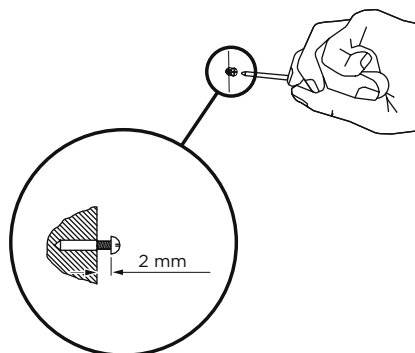

Fig.1
- Attach the upper hood mounting screws in the locations shown in Fig.2 and 3. Use the 30 mm screws and expansion plugs if attaching to masonry. Ensure that there is a 2 mm gap between the screw head and the wall – see Fig.1.